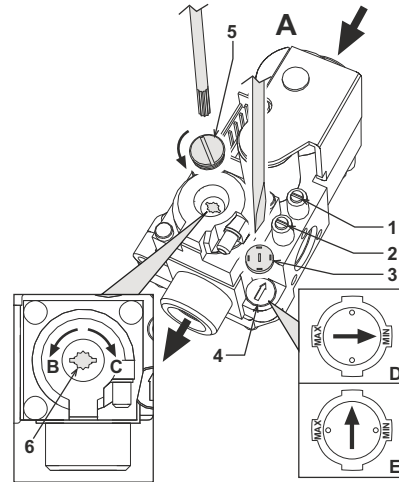

fig. 17 - Pressure adjustment
On PEGASUS D boilers, the firebox heating power and therefore the heat output delivered to the heating water can only be adjusted by means of the main burner through the gas valve, (see fig. 17). The diagrams given in the section cap. 5.2 indicate the variation in heat output delivered to the water according to the change in burner operating pressure. Being able to adjust boiler output to the actual heating requirements means above all reducing heat losses, and therefore obtaining fuel saving. Also, with the variation in output, also regulated by the provisions, the boilers keep their efficiency levels and combustion characteristics practically unchanged
- Using a small screwdriver, remove the secondary operator protection cap 5 of the gas valve of fig. 17.
- Connect a manometer to the pressure point 2 (fig. 17) located below the gas valve, and turn the boiler thermostat knob to the maximum value.
- Adjust the pressure to the required value by means of the screw 6 (fig. 17), referring to the diagrams given in section cap. 5.2.
- Remove the small protection cap 3 (fig. 17) from the gas valve. Using a small screwdriver, adjust the ignition "STEP" for the required gas (**G20-G25** position **D** fig. 17 or **G30-G31** position **E** fig. 17); then refit the cap.
- Vent the air from the gas pipes by means of the gas valve pressure point 1 (fig. 17).